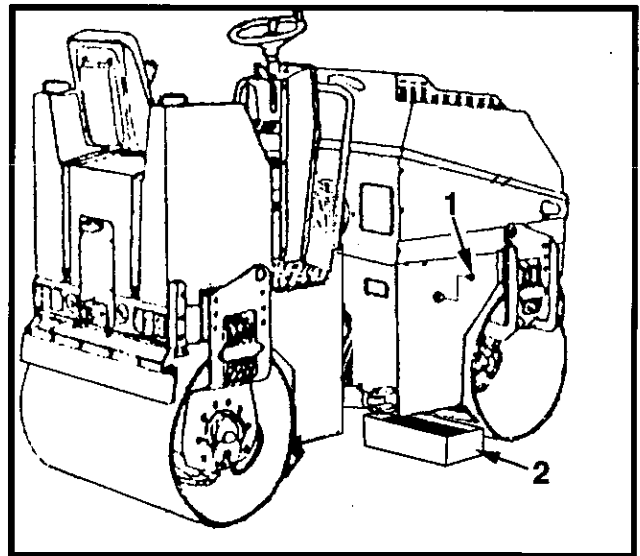

Figure 5-21 Engine Oil Drain Point
3. Place container with capacity of at least 7.6 liter (2, Figure 5-21), under drain point of engine and remove drain plug (1, Figure 5-21).
8. Clean the drain plug (1, Figure 5-21) and install with a new seal ring Torque drain plug to 41 pounds-foot (55 Nm).